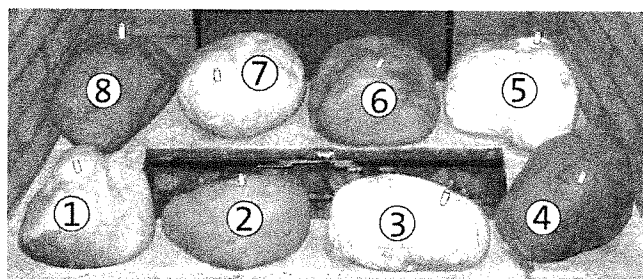

Figure 6.19 Beach Fire Rock placement. Note orientation of the log retention pins.
2. The underside of each Rock is numbered 1-8 Set the rocks in the pockets of the Baseboard in the positions shown in fig. 6.19